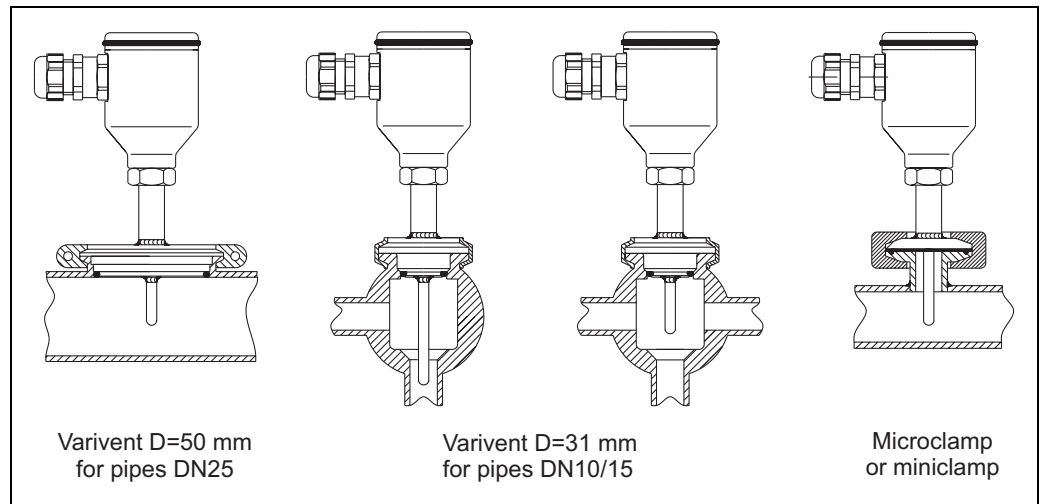

Fig. 3: Installation solutions in small pipes
To avoid this source of inaccuracy, probes with low diameter must be employed, and the immersion length (L) should be, if possible, at least about 80 mm. In small pipes, the axis line of the duct must be reached, and even slightly exceeded, by the tip of the probe (see figure 3).
Suitable solutions for the installation of the sensors in small pipes are shown in figure 3.
For Varivent® flanges with small nominal diameter, maximum immersion lengths for usual applications are listed in the following table (also refer to figure 3).